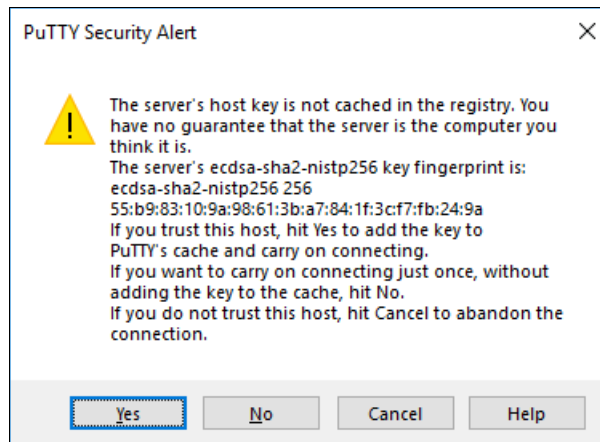

Figure C-14 Confirming the security alert
11. If a PuTTY Security Alert opens as shown in Figure C-14, confirm it by clicking **Yes**.